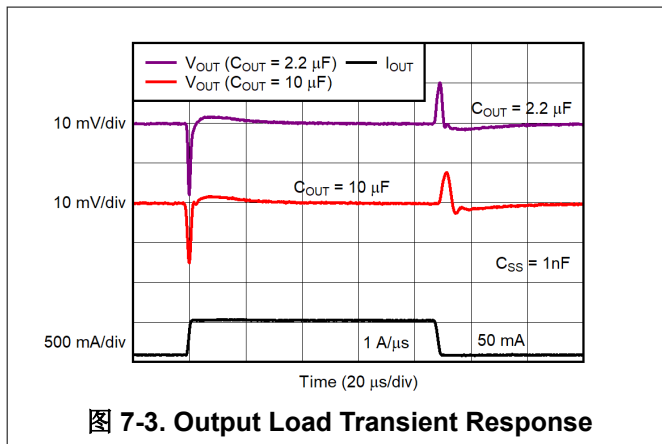

图 7-3. Output Load Transient Response
2. Select C_{SS} to be the highest capacitance while still achieving the desired start-up time. 表 7-3 gives examples of this calculation. 图 7-3 gives examples of turn-on response with different C_{SS} capacitor value.